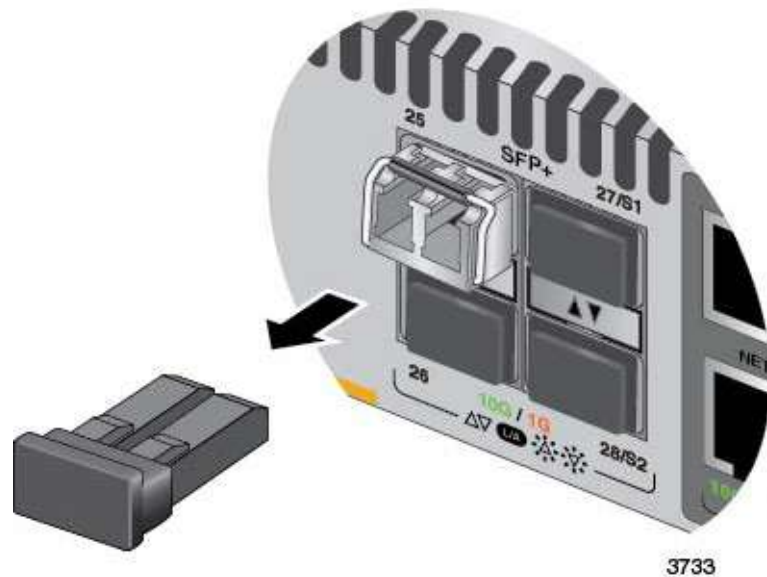

Figure 74. Removing the Dust Cover from an SFP or SFP+ Transceiver
- Remove the dust cover from the transceiver, as shown in Figure 74.